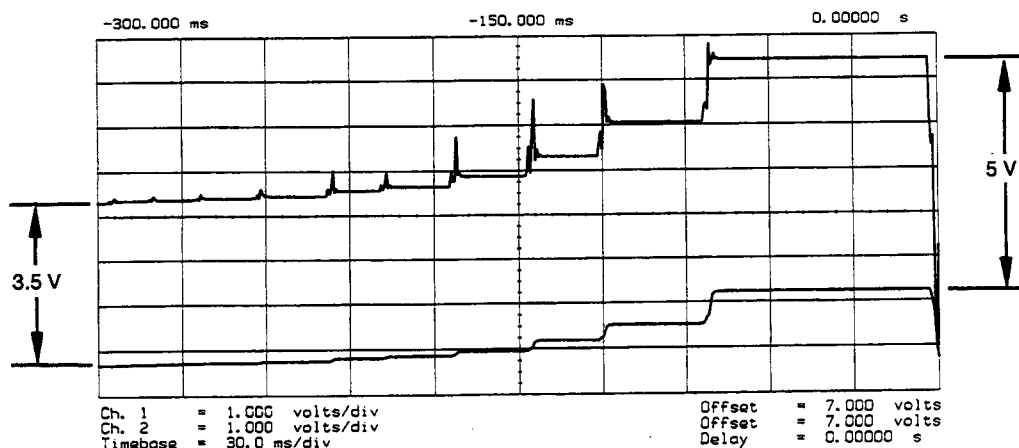

Figure 7. YO- and YO+ Coil Drive Voltage Differences with SOURCE PLL OFF
3. Monitor the two YO coil drive lines. In source tune mode the voltage difference should vary from approximately 3.5 to 5.0 volts as shown in Figure 7.